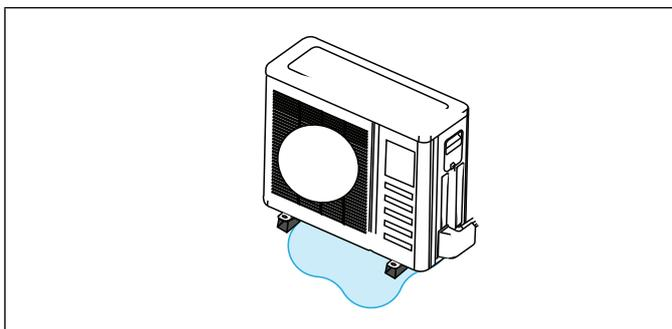

Figure 23. Avoid Defrost Water Ice Hazard
- Carefully consider how to manage defrost water disposal to prevent ice from blocking walkways or creating a safety hazard near the outdoor unit as illustrated in “Figure 23. Avoid Defrost Water Ice Hazard”.